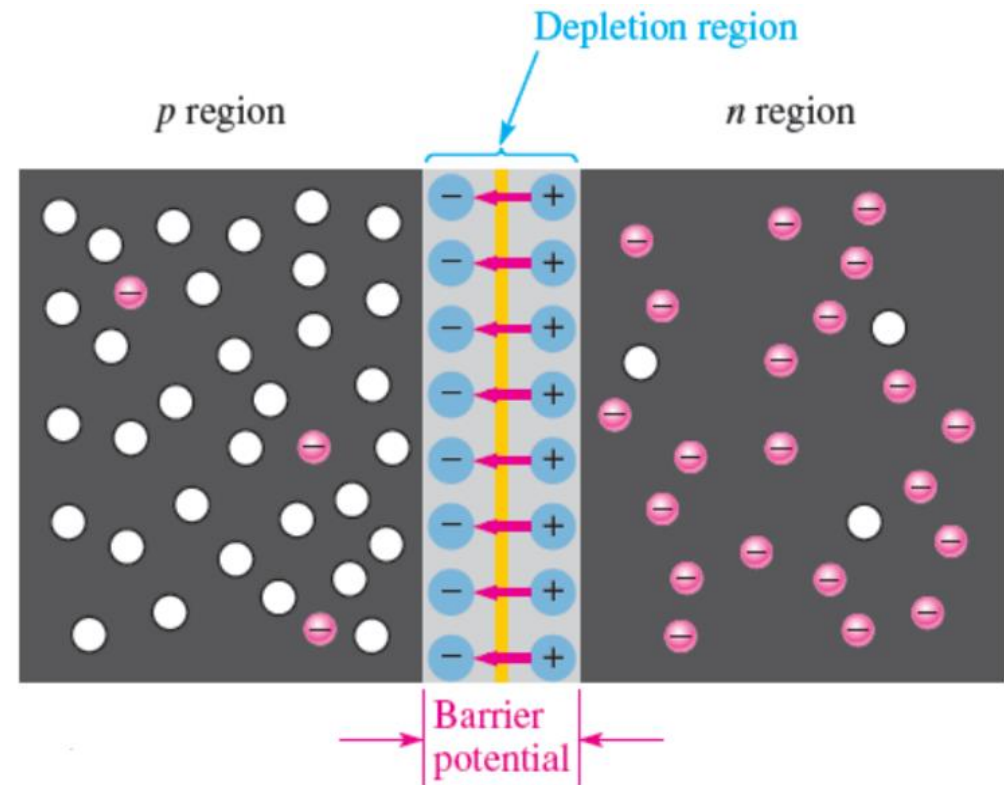

Fig. 3. Depletion region
- Thus, as the ion layers build up, the area on both sides of the junction becomes essentially depleted of any conduction electrons or holes and is known as the depletion region Fig 3.
- The forces between the opposite charges form an electric field, as illustrated in Fig.3 b by the arrows between the positive charges and the negative charges.